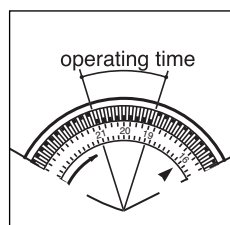

fig.12
- 1) Set the operating times (fig. 12) by pushing in the notches on the dial corresponding to the period required (each notch represents 15 mins.)